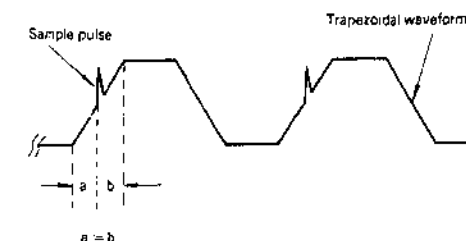

Fig. 46
- 2) Open-circuit PG509-① and PG509-② and confirm the sample pulse falls approximately on the center of the trapezoid's leading edge. (Fig. 46)